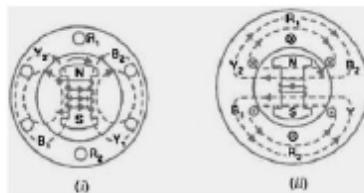

Fig. 1(c)
- Flux due to rotor current is distributed in air-gap as shown in Fig: 1 (d).